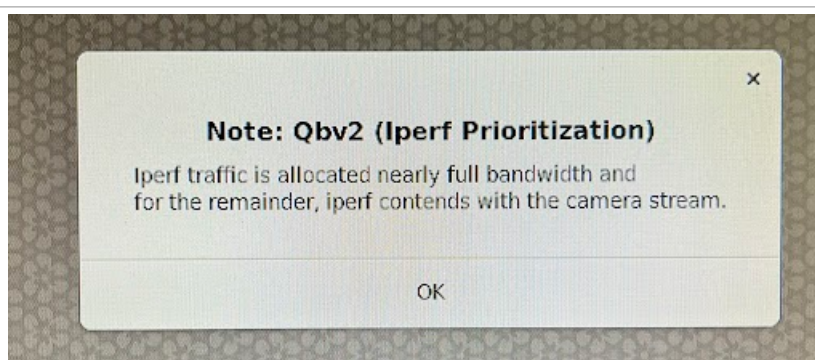

Figure 58. About Qbv2 (Iperf Prioritization) pop-up window
- After clicking the **Qbv2 (Iperf Prioritization)** button, a pop-up with a message appears, as shown in Figure 58.